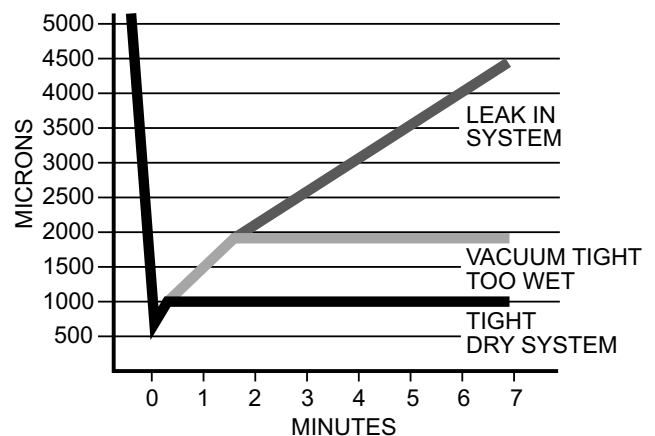

Fig. 8 – Deep Vacuum Graph
10. Perform a leak check on the unit. Vacuum unit to 500 microns. When isolating the unit from the pump, the pressure shall not rise above 1000 microns in 7 minutes (Fig. 8).